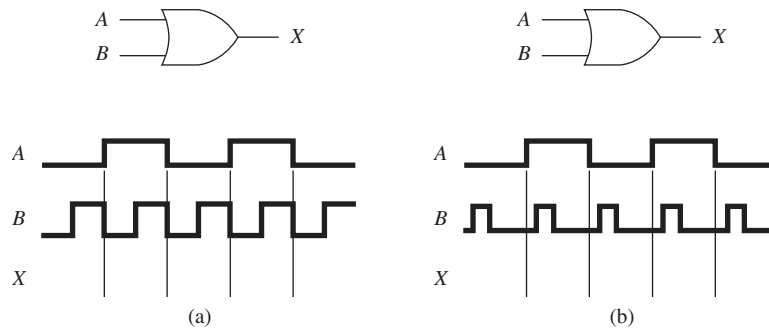

Figure P8
8. Sketch the output waveform at X for the two-input OR gates shown in Figure P8.